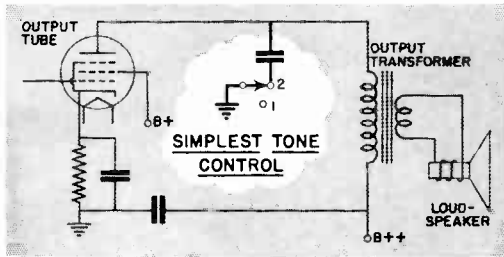

Fig. 2. In this tone control, the condenser lures higher audio frequencies directly to ground and thus makes bass notes predominate.
*Simplest Tone Control Circuit.* A condenser connected between the plate of an a.f. amplifier tube and ground, essentially as shown in Fig. 2, is the simplest practical method used in modern radio receivers to control tone.
The action of a tone control condenser can be explained in a few sentences. When in use, the condenser is always shunted across (in parallel with) the load in a signal circuit. At low audio frequencies, the reactance of the condenser is so high in comparison to the reactance of the load (the output transformer primary in Fig. 2) that by-passing of low-frequency signals is negligible. As frequency goes up, condenser reactance goes down, and more and more of the signal is by-passed to ground without passing through the load. Keeping some of the medium and high-frequency audio signals out of the load in this manner gives an apparent boost in the strength of bass or low-frequency signals, because the signal which is fed to the loudspeaker then has a higher proportion of bass notes than the signal fed to the tone control.